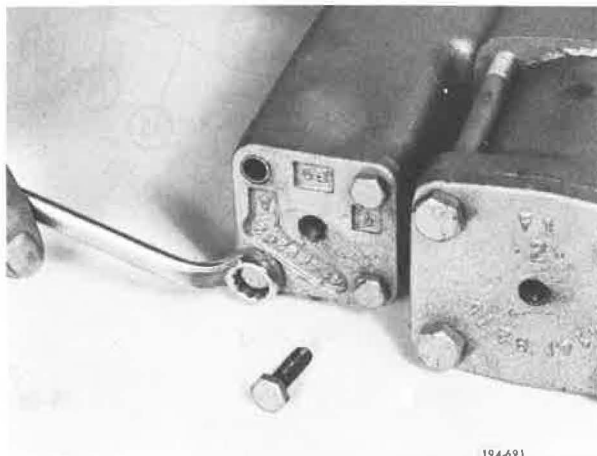

Figure 5-326. Removing Capscrews
3. Remove reverse shift cover capscrews. See Figure 5-326.